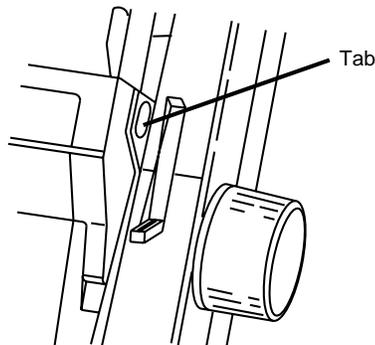

Figure 16-1. ROP Access Cover Tabs Location
2. Open the ROP access cover by grasping the tabs at either end and tilting back. See Figure 16-1.